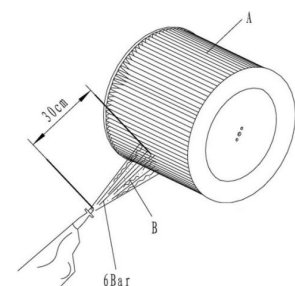

Figure 14
6. Clean by blowing with compressed air of up to 6 bar (FIG. 14) at a minimum distance of 30 cm;